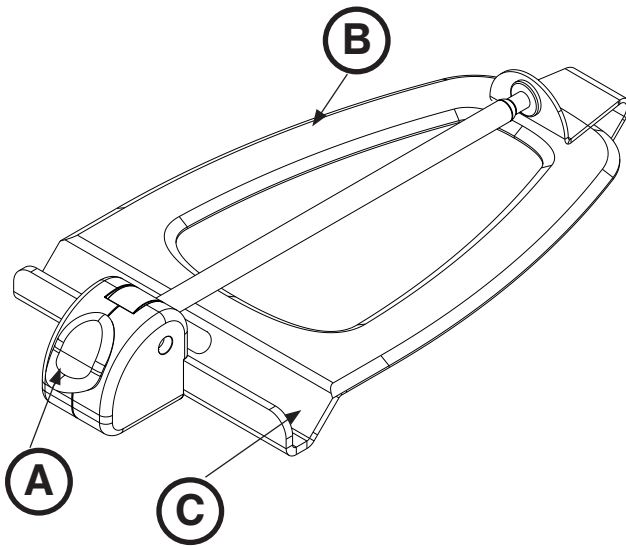

Figure 55: Lateral Cassette Holder
1. Press down on the yellow release button (A) to open the lateral cassette holder (Figure 55).
2. Slide the flat base (B) between the mattress and the patient platform (Figures 55 and 56).
4. Place the X-Ray cassette in the cassette canal (C) (Figures 55 and 56).